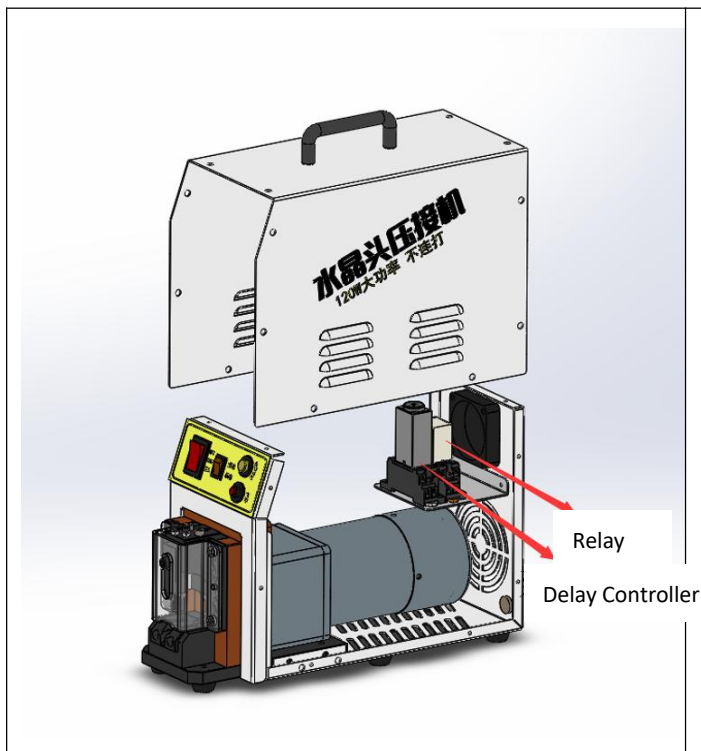

Figure 12. Delay Controller Combination
**Delay Controller Combination (Figure 12):** the control element to control the crimping times of equipment and whether the continuous stamping can be realized when the pedal switch keeps close.